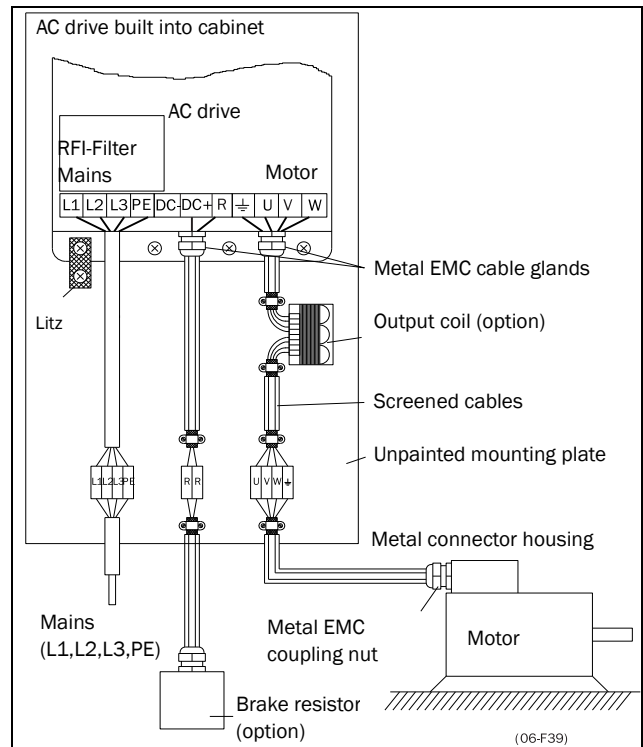

Fig. 23 AC drive in a cabinet on a mounting plate
- The litz ground connection see fig. 23, is only necessary if the mounting plate is painted. All the AC drives have an unpainted back side and are therefore suitable for mounting on an unpainted mounting plate.
- The litz ground connection, see fig. 23, is only necessary if the mounting plate is painted. All the AC drives have an unpainted back side and are therefore suitable for mounting on an unpainted mounting plate.
If the motor cables are to be interrupted by maintenance switches, output coils, etc., it is necessary that the screening is continued by using metal housing, metal mounting plates, etc. as shown in the Fig. 23.
- If the AC drive is mounted in a standard cabinet, the internal wiring must comply with the EMC standard. Fig. 23 shows an example of a AC drive built into a cabinet.